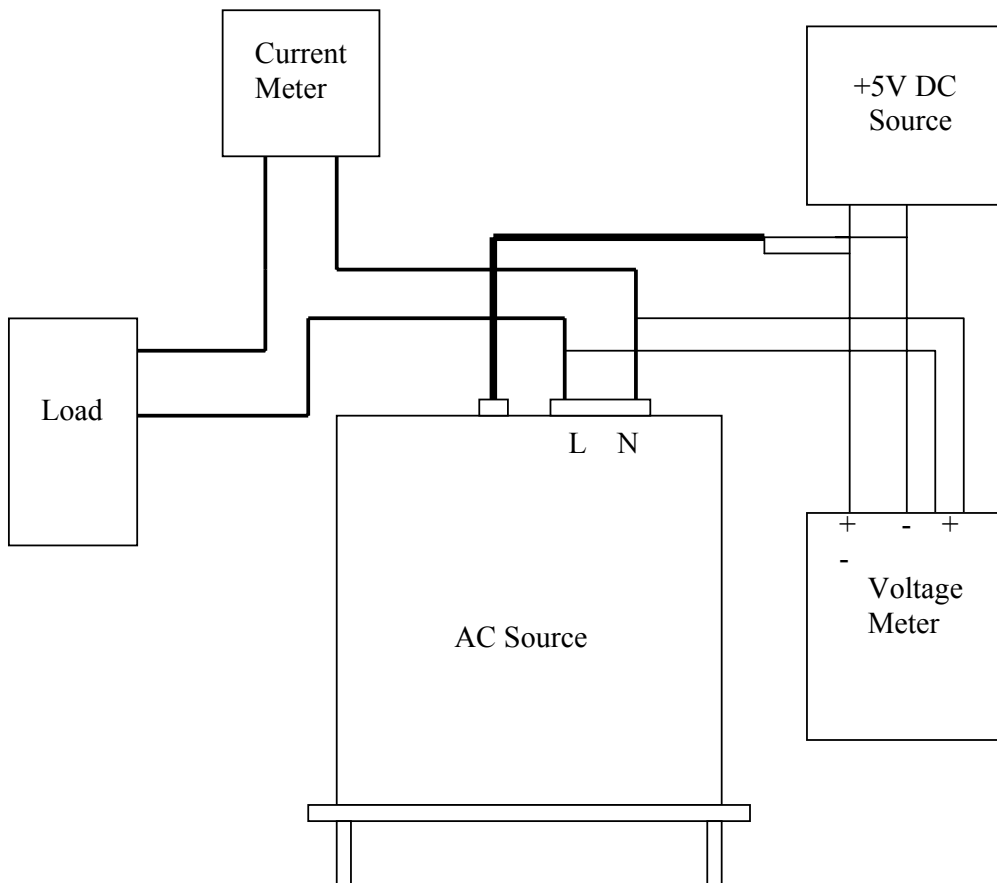

Figure 4-1
The AC Source built a simple way to calibrate the 3-phase output and measurement accuracy without opening the cover. Users can do it for each phase following the procedures step by step. A voltage meter, current meter, suitable load and +5V DC Source are needed during calibration. Please refer to Figure 4-1 for the connections of these instruments. There are three items need to calibrate. But it is not necessary to calibrate all of them at once. Users can choose one item only as need.
1. The Vdc offset may be positive or negative. The positive of DVM connects to the line of AC Source output, and the negative of DVM connects to the Neutral of AC Source output. See Figure 4-1.